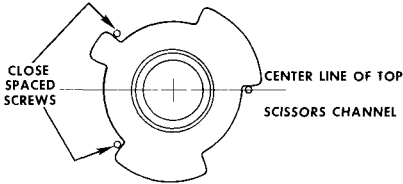

Figure 2 - Brake in Proper Position
- b. Brake installed incorrectly. Narrow tab should fit between closest of the three projecting screws. See Figure 2.
- a. Brake installed incorrectly. See Figure 2.